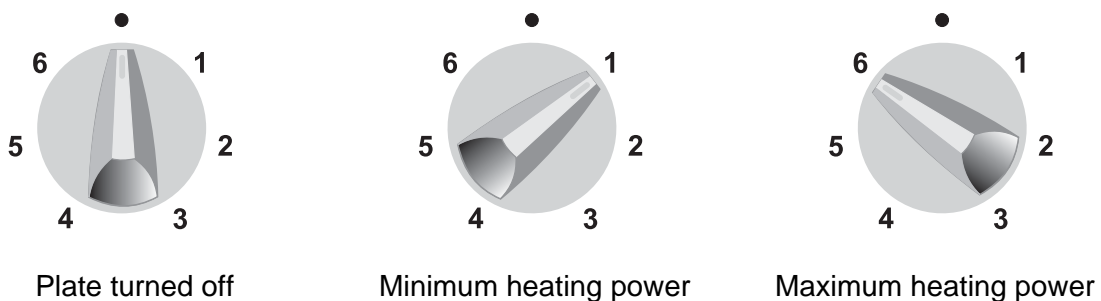

Fig. 20
- A control knob may be turned in both directions. Digits 1 to 6 indicate control knob positions (Fig. 20). These positions correspond to certain heating power.